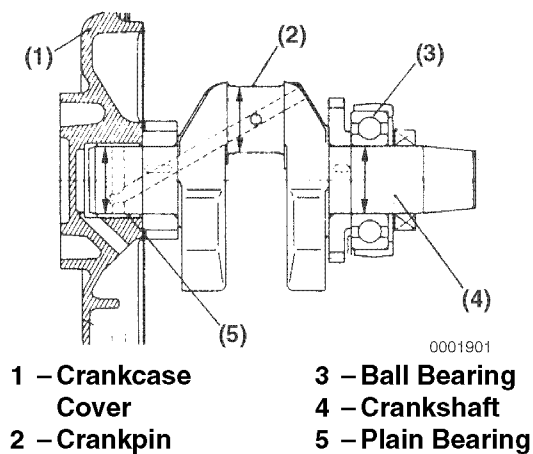

Figure 6-59
2. Measure the outside diameter of the crankpin (**Figure 6-59, (2)**) and main bearing journals. Take measurements at several places around each bearing surface. If not within specification, grind the journal(s) and install undersize bearings, or replace the crankshaft. See *Crankshaft on page 6-8* for the service limit. Record the measurements.
Note: The ball bearing (**Figure 6-59, (3)**) on the flywheel end is press-fit onto the crankshaft (**Figure 6-59, (4)**). Replace the crankshaft if the bearing fit is loose.